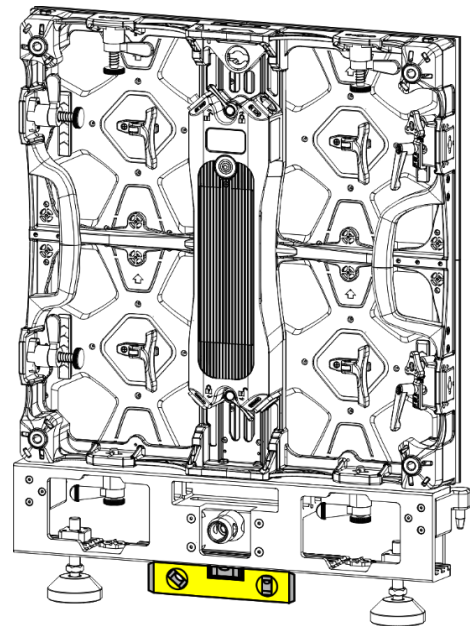

Fig. 34
- 08) Make sure that the LED screen is leveled, as shown in Fig. 34. For more information about leveling the setup, see the user manual of the rigging bar (101820/101821).